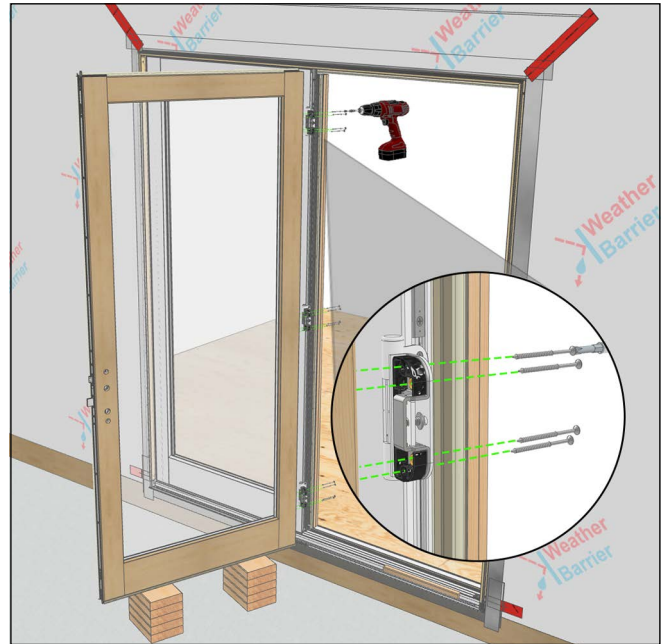

Figure 18
5. Fasten 4 x 2-1/2" matching screws are used to attach each hinge of the panel. Hinges are pre-applied to stationary panel on the swinging jamb. See Figure 18